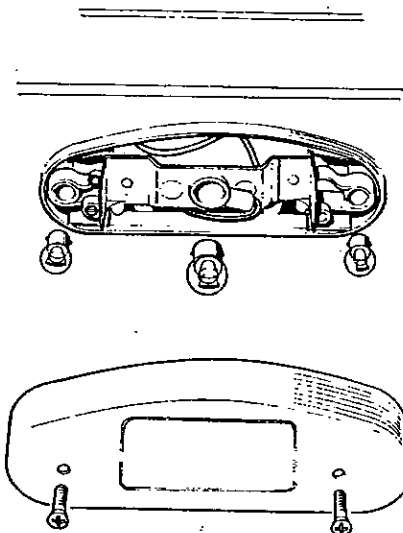

Fig. 57. Number Plate and Reversing Light Bulb Replacement
1. Apply grease to nipples as shown on the lubrication chart (fig. 57).
2. Pull the lens holder from bulb housing (fig. 57).